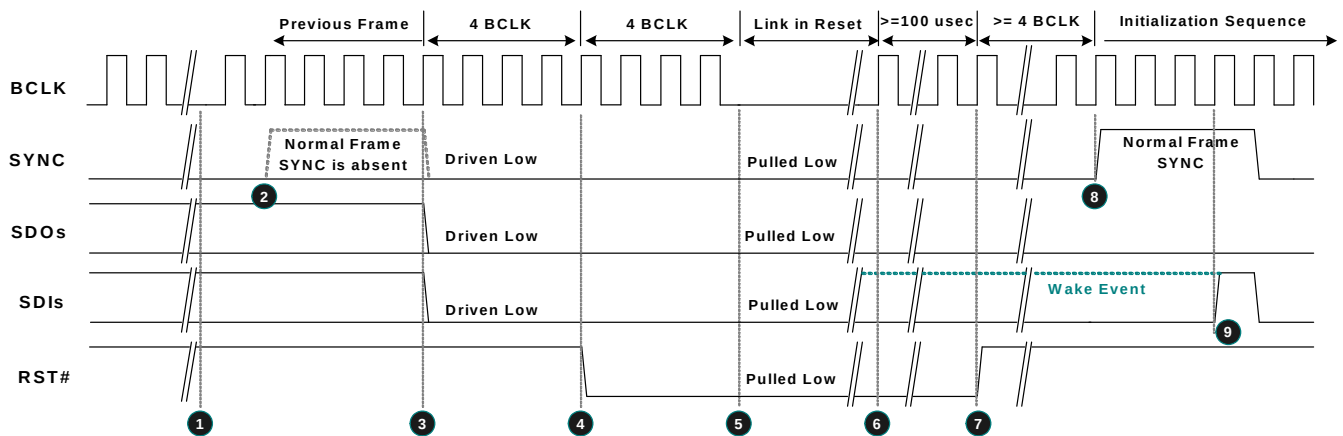

Figure 13. Link Reset Timing
3. Software initiates power management sequences. Figure 13, shows the 'Link Reset' timing including the 'Enter' sequence (❶~❷) and 'Exit' sequence (❸~❹)